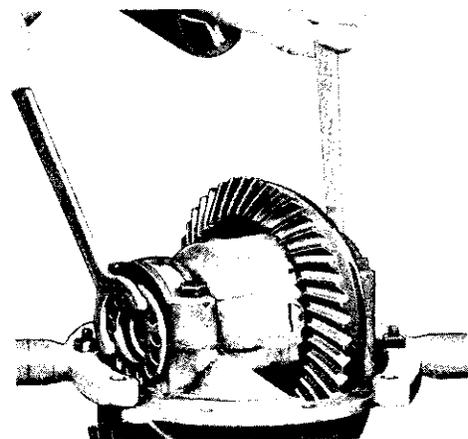

Fig. 30—Adjusting Differential Bearings
(1) Holding differential and ring gear assembly with bearing cups on respective bearing cones, carefully install the assembly into carrier.
(2) Install differential bearing caps, on respective sides, making certain that identification marks on caps correspond with those on carrier. Install cap bolts and tighten bolts of each cap by hand.
(3) Install differential bearing adjusters, on respective sides, making certain that identification marks correspond. Screw adjuster in by hand. No attempt should be made to apply any excessive pressure at this time.
(4) Using spanner wrenches Tool C-406A to square bearing cups with bearing cone, turn adjusters "IN" until cups are properly square with bearings and end play is eliminated with some backlash existing between the drive gear and pinion (Fig. 30).